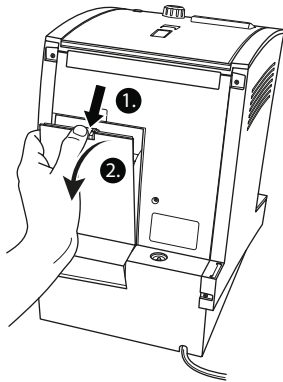

Fig. 12: Removing the cover of the brewing unit
- Open the flap of the brewing unit on the back side of the machine by pressing down on the tabs with your thumbs and pulling towards you (Fig. 12)